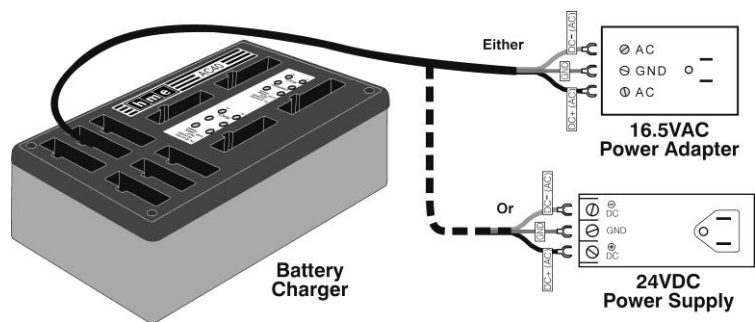
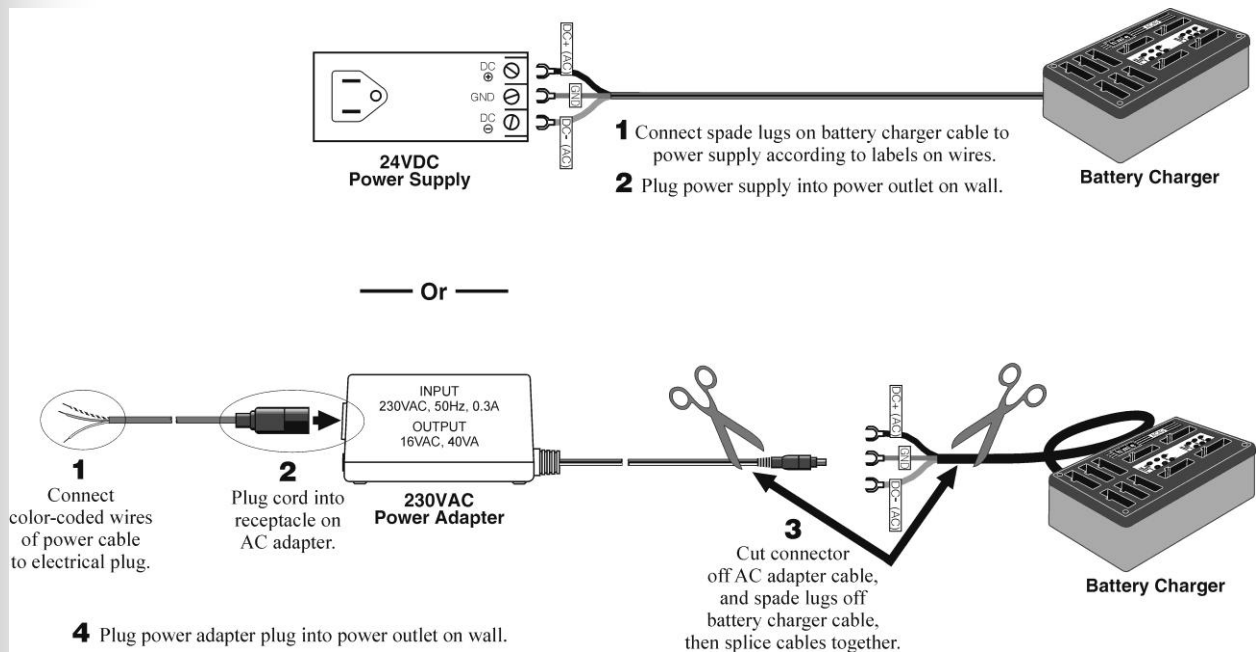

Figure 9. Battery charger power connection
Figure 10. 230VAC adapter wiring for battery charger
- Connect the battery charger cable to the 16.5VAC power adapter or 24VDC power supply as shown in Figure 9.
- Connect the base station power adapter cable to the adapter as you did for the battery charger, as shown in Figure 9, page 9. For use outside the United States, see 230VAC adapter connections shown in Figure 10, page 10.